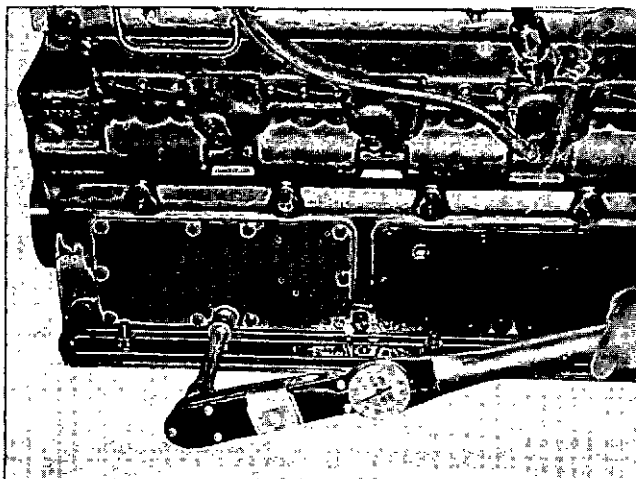

Fig. 14-1-7, V40242. Torquing side cap screw
1. Install and torque main bearing side cap screws on engines (Fig. 14-1-7) with serial number suffix "3" or reference "3" to following values.